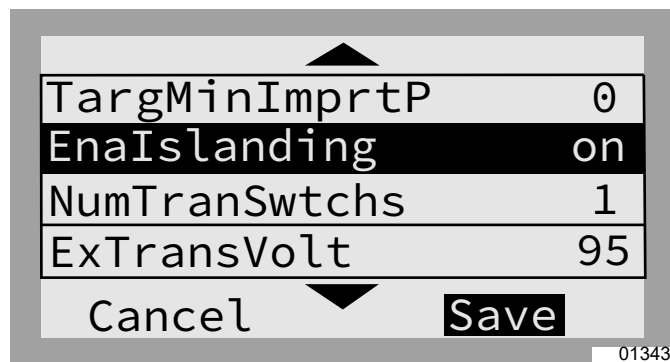
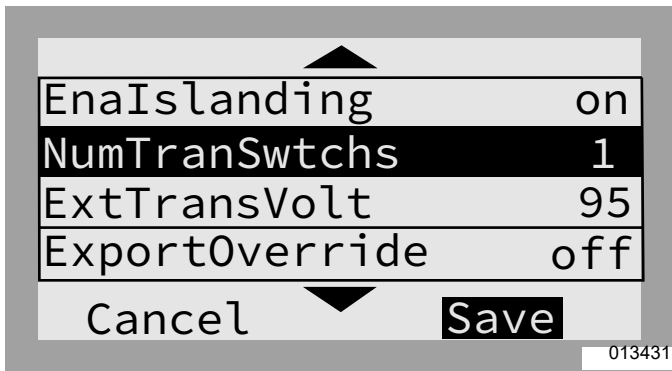
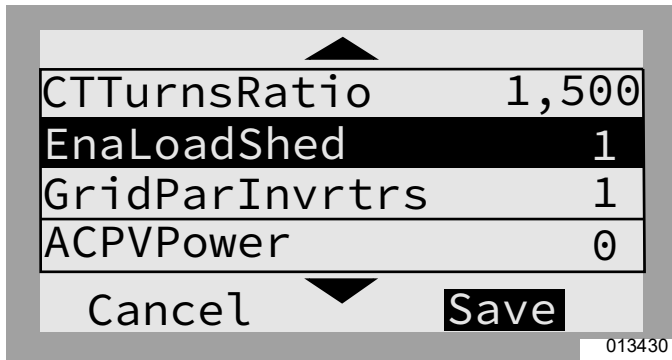
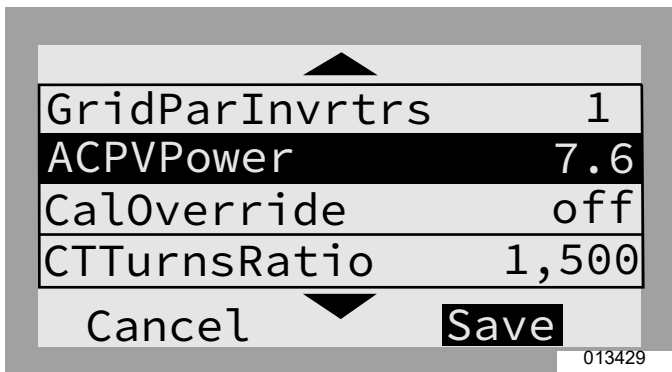

Figure 7-22. ACPV + Battery with a PWRcell ATS and SMMS
Figure 7-23. AC Coupled PV + Battery (1 of 3)
Figure 7-24. AC Coupled PV + Battery (2 of 3)
Figure 7-25. AC Coupled PV + Battery (3 of 3)
- See Figure 7-22, Figure 7-23, Figure 7-24, and Figure 7-25. Inverter “Mod. Settings:”